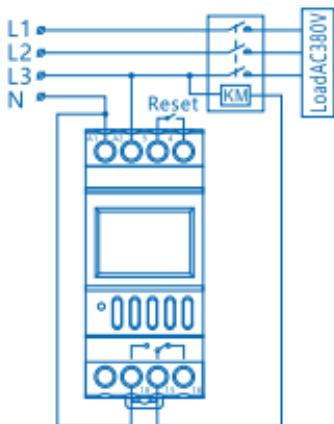

Figure 4 Wiring diagram of 3-phase control (contactor coil AC220V)
a) Control contactor coil voltage: AC220V 50Hz/60Hz, see Figure 4 for wiring method;